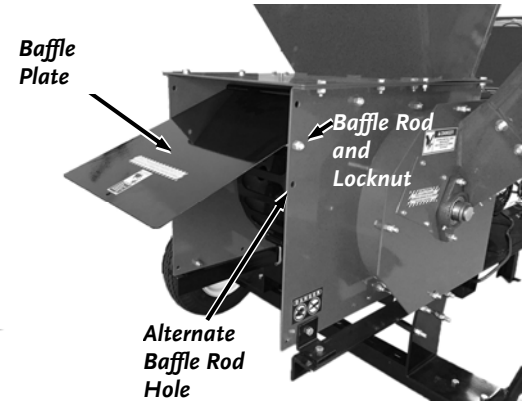

Figure 7
2. Reinstall the Baffle Rod and locknut underneath the Baffle Plate to hold it in the Discharge Position (**Figure 7**).